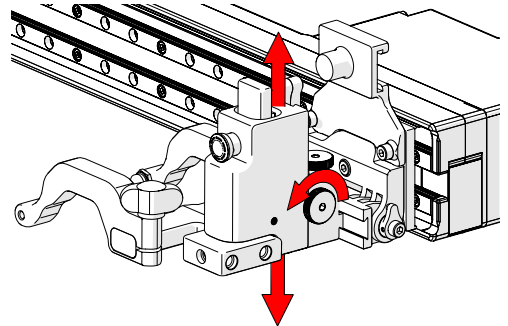

Fig. 171 - Vertical adjustment
2. The vertical adjustment knob (*Fig. 171*) allows height adjustment of the heavy duty vertical probe holder. This adjustment also controls the probe holder's spring tension.